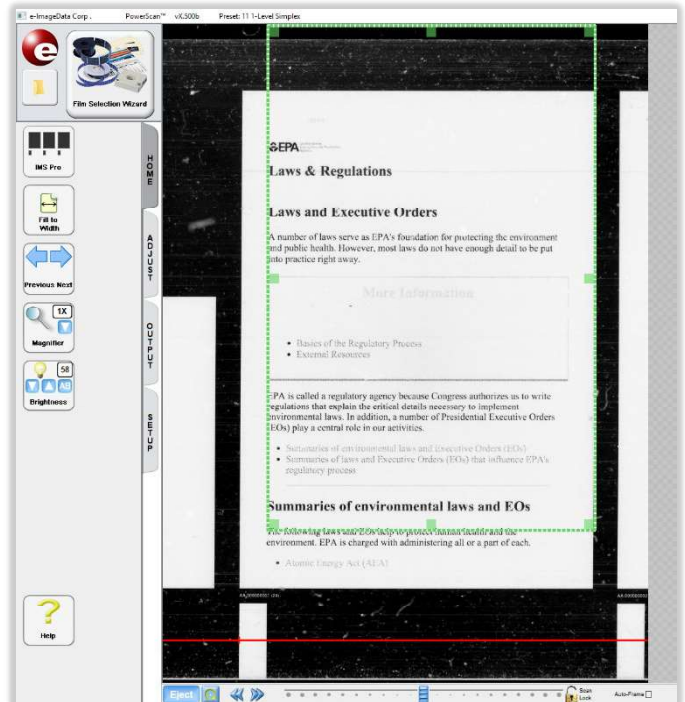

Figure 105
2. Press and hold the *CTRL* button on the keyboard and left click on the leading edge of the blip, approximately in the vertical center. The red track and the tick mark will move to this position. *Figure 105*